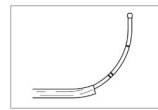

Figure 4: Frontal Bend
- Frontal Sinuses:** When accessing the frontal ostia/recesses, a large radius curve similar to a frontal sinus seeker (Figure 4) is recommended.